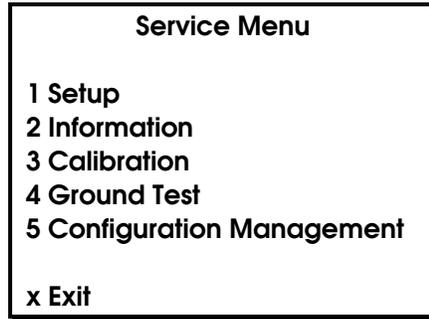
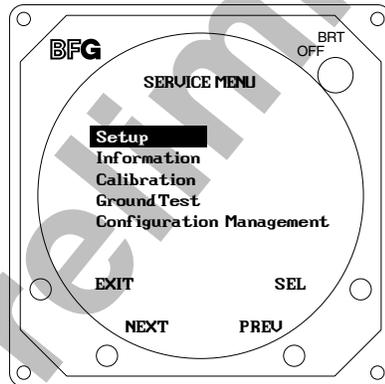

Figure 4-1. Service Menu (Terminal Emulation Program)
Figure 4-2. Service Menu (WX-1000/SKY497 Display)
The Service Menu is intended as an aid in installing, testing and troubleshooting the SKY899 (figure 4-2). The Service Menu is not intended to be used by the pilot during normal system operation. A service menu tree is provided at the end of this paragraph (figure 4-3). When interfaced to an alternate display the service menu functions are accessed via a computer (figure 4-1) using a terminal emulation program, see appendix E for operating instructions. To access the service menu from the terminal emulation program, type the menu command and then type the corresponding prefix for each selection (e.g., 1, 2, x, etc.).
Access the Service Menu on a WX-1000/SKY497 display by holding soft-keys (1) and (2) (the left two buttons) depressed as the system is turned on. Hold the buttons until the Service Menu is displayed. The Service Menu is shown in figure 4-2.